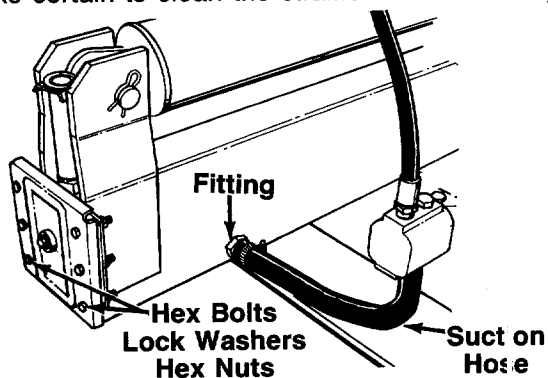

FIGURE 11.
Change the hydraulic fluid in the reservoir every 100 hours of operation. Remove the six hex bolts, lock washers and hex nuts which hold the end plate to the beam. See figure 11. Remove the plate, and drain the fluid into a suitable container. Refill using only Dexron II automatic transmission fluid, as instructed in the "Initial Preparation" section of this manual, page 5. Also, make certain to clean the strainer tube assembly.
1. Loosen the hose clamp on the suction hose at the beam. See figure 11. Disconnect the hose from the beam.